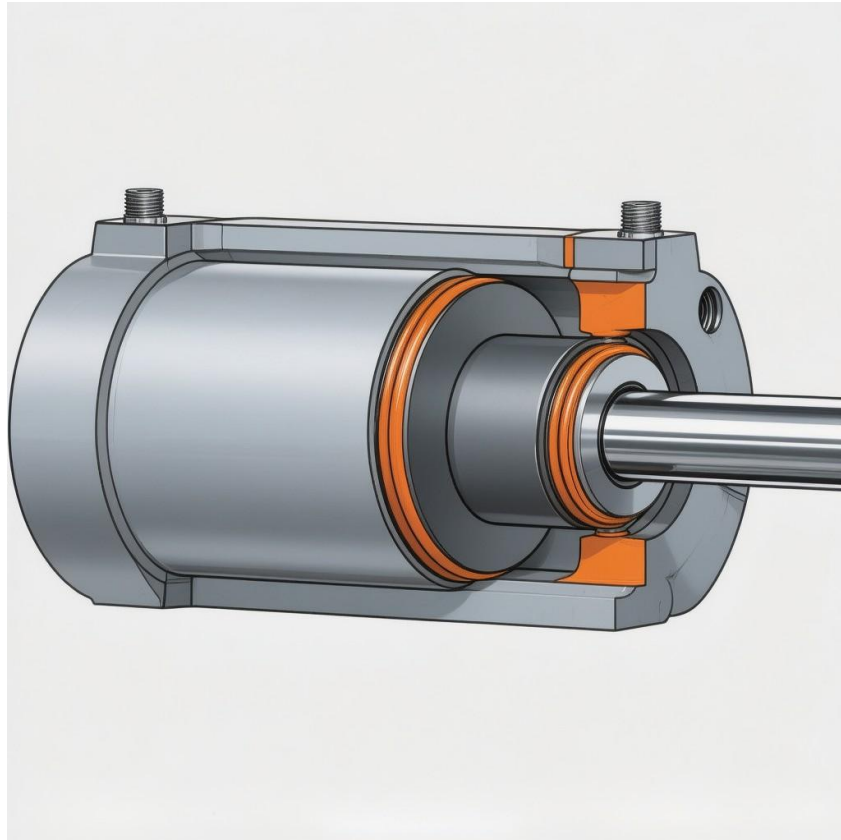

Figure 8.7: Cross-section of a double-acting cylinder showing key wear parts.
- **Preventive Maintenance (PM):** Routine, scheduled tasks performed to keep equipment in good working order and prevent failures. Examples include draining filter bowls, checking fluid levels, and cleaning heat exchangers.
- **Corrective Maintenance (CM):** Unscheduled tasks performed to repair a component that has already failed. This is a reactive process, often done after a fault has been diagnosed. Examples include replacing a burnt-out solenoid coil or a leaking cylinder seal.
**2. Internal Inspection: Double-Acting Cylinder** When a cylinder is leaking internally or moving erratically, it must be disassembled for inspection. Key parts to check (see Figure 8.7) are: